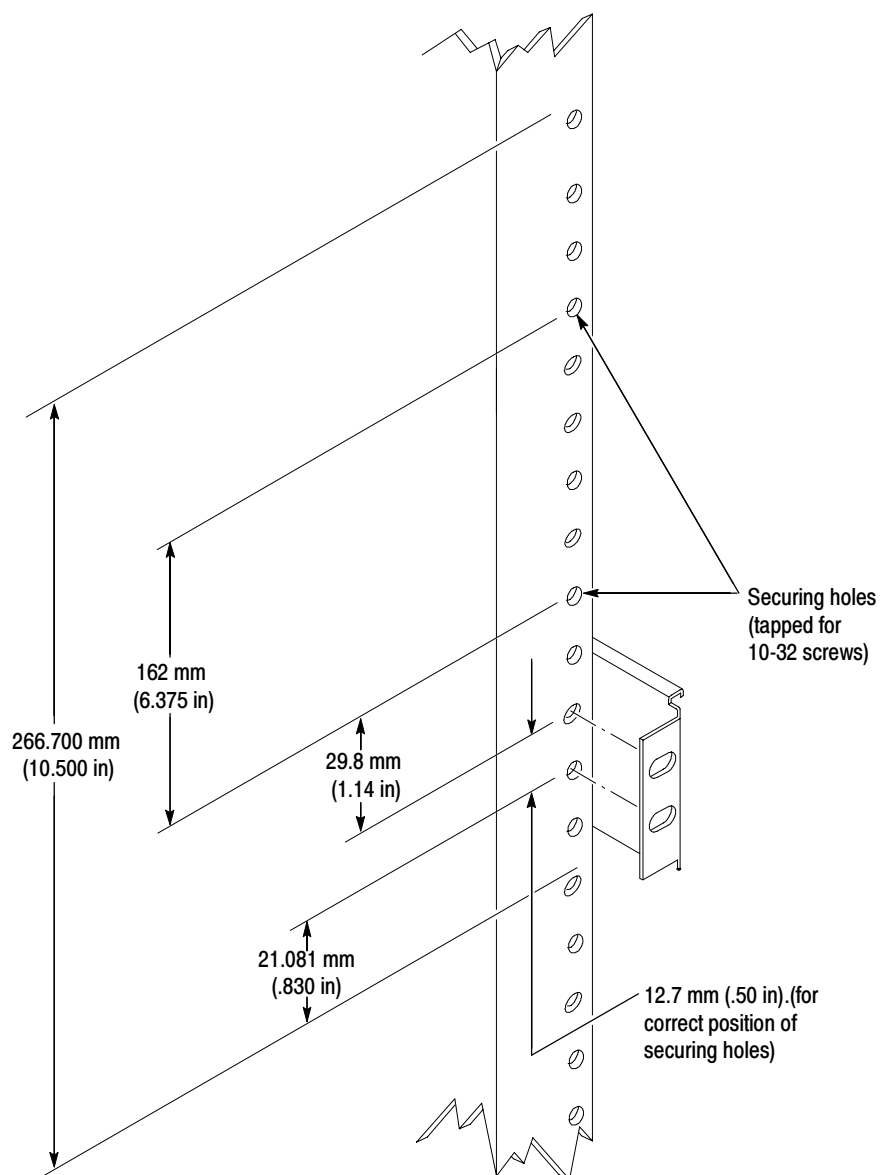

Figure 10: Vertical clearances for rack installation (left-front rail shown)
- a. *Select the mounting position in rack:* Select two ½ inch spaced holes in the front rail. Verify that the 4.36 inch and 10.500 inch clearances exist relative to those mounting holes. See Figure 10, page 19.